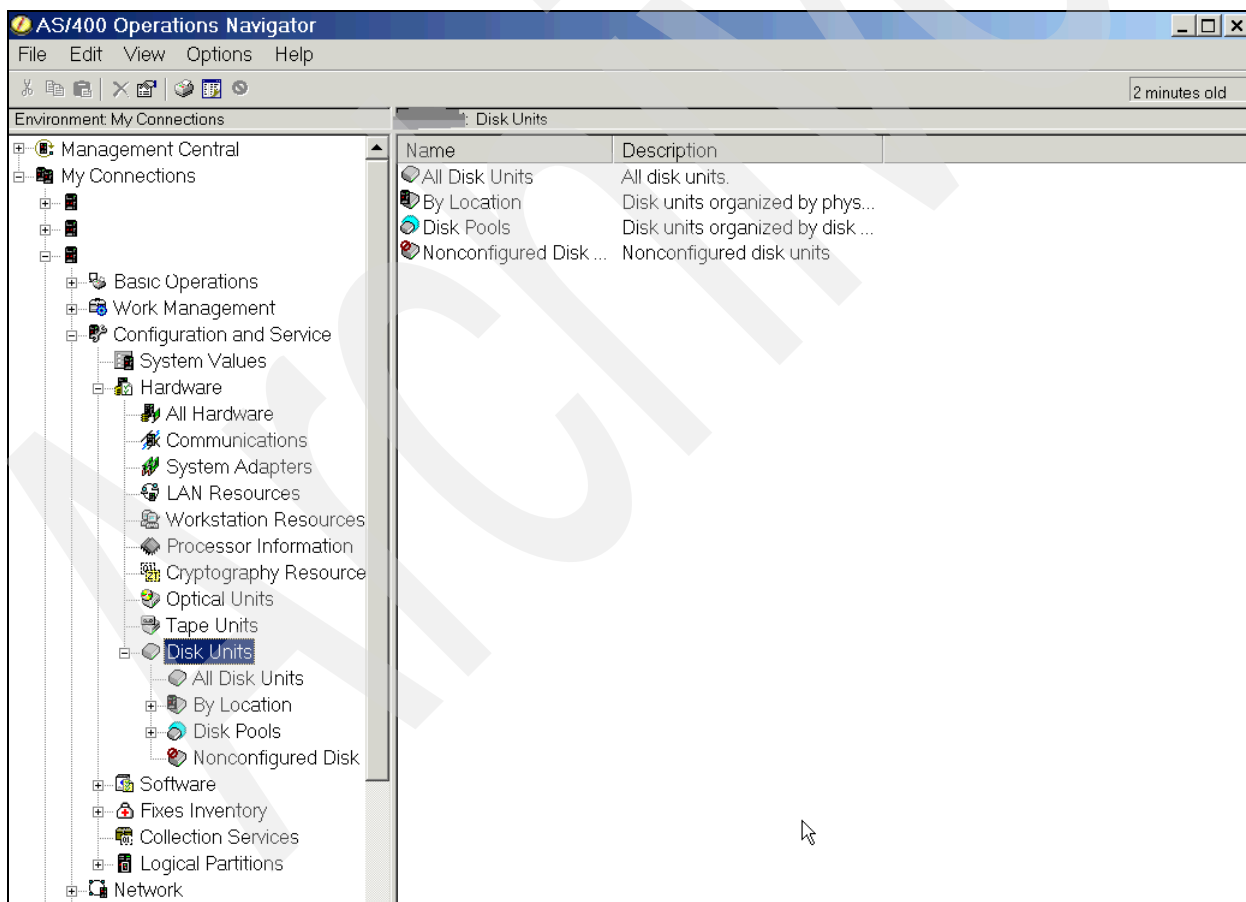

Figure 1-3 Configuration and Service: Disks
5. Figure 1-3 shows the four options that are available to you: